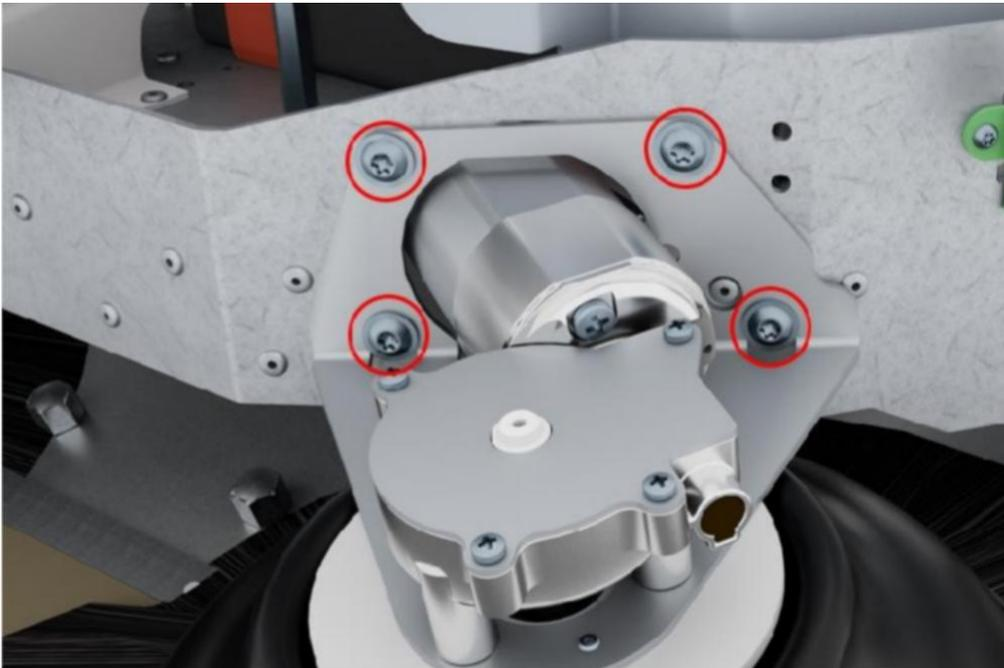

Fig. 27: Left disc brush holder
7. You can now see the flange connection with the 6 screws (see Fig. 27: Flange connection of the plate brushes with 6 screws (only 4 visible)).